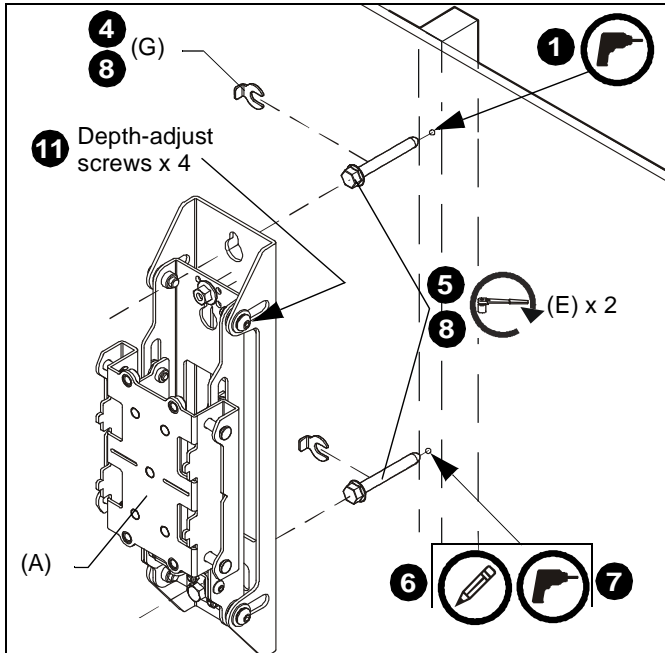

Figure 7
1. Drill one 7/32" (5.5mm) pilot hole in stud at upper mounting slot. (See Figure 7)
2. Partially install one 5/16 x 2-3/4" flanged lag bolt (E) into pilot hole but do not tighten to wall.
3. Hang outside wall upright (A) [or center wall upright (B)] aligning upper mounting slot over lag bolt and level upright.
4. Place one slotted washer (G) over flanged lag bolt. (See Figure 7)
5. Tighten lag bolt to secure wall upright (A or B) to wall at upper mounting slot. (See Figure 7)
6. Mark the attachment point for the lower mounting slot, making sure the attachment point is located on the stud. (See Figure 7)
7. Drill 7/32" (5.5mm) pilot hole at marking for lower mounting hole. (See Figure 7)
8. Use one 5/16 x 2-3/4" flanged lag bolt (E) and one 5/16" slotted washer (G) to attach each wall upright to the wall through the lower mounting hole. (See Figure 7)
10. Adjust depth of wall uprights, if necessary, so that the face of the wall uprights are all in the same plane across the width of wall upright installation: (See Figure 7)
12. Adjust depth of wall uprights, if necessary, so that the face of the wall uprights are all in the same plane across the width of wall upright installation: (See Figure 7)